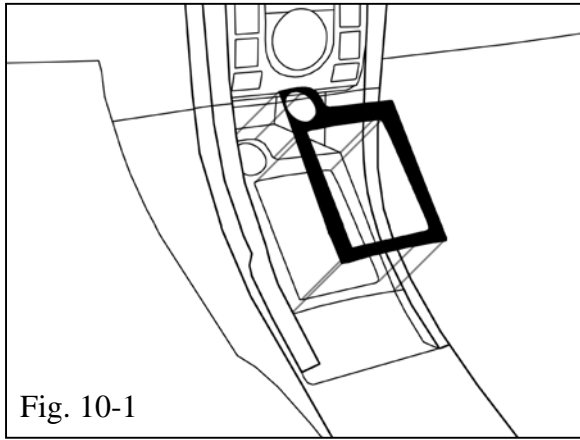

Fig. 10-1
(1) Align part uniformly to edge of factory component. Edge of appliqué should be flush to edge of factory component, $\pm 1.0\text{mm}$. (Fig. 10-1)
(2) Gently touch part into position.